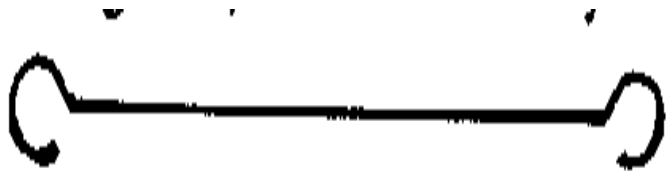

FIGURE 2
19. Wire or welding rod, 2mm (3/32") to make the connection between parts No. 9 and 17 (see Figures 2 and 14).